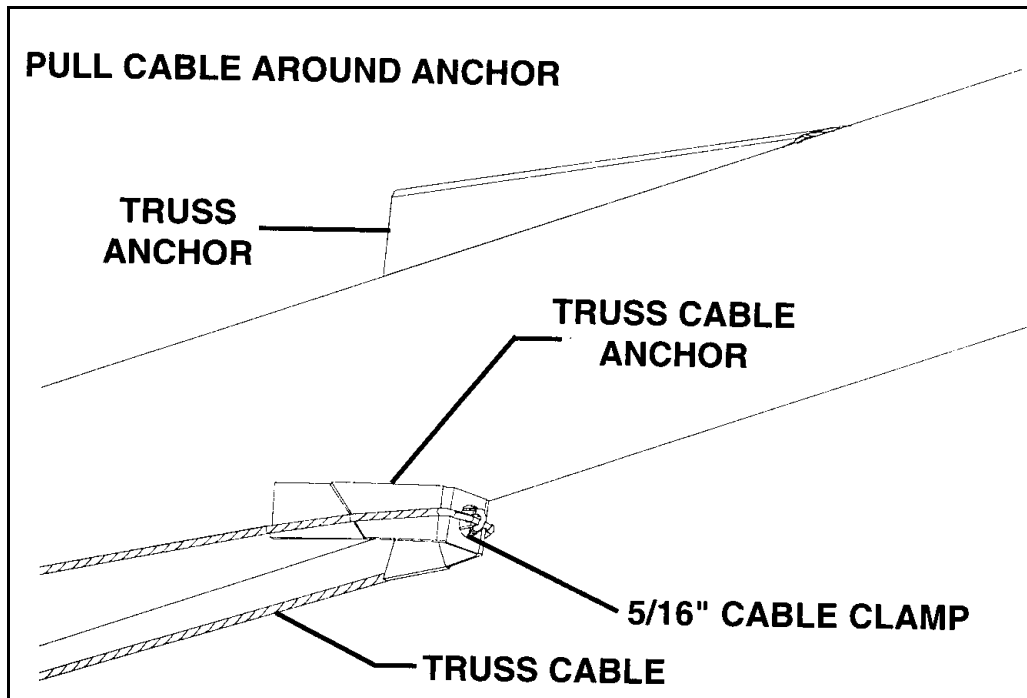

Figure 3.27
- ➔ 4. **For 91'**: Pull longer cable around truss cable anchor at top end of auger tube and loosely attach with a 5/16" cable clamp (Figure 3.27).